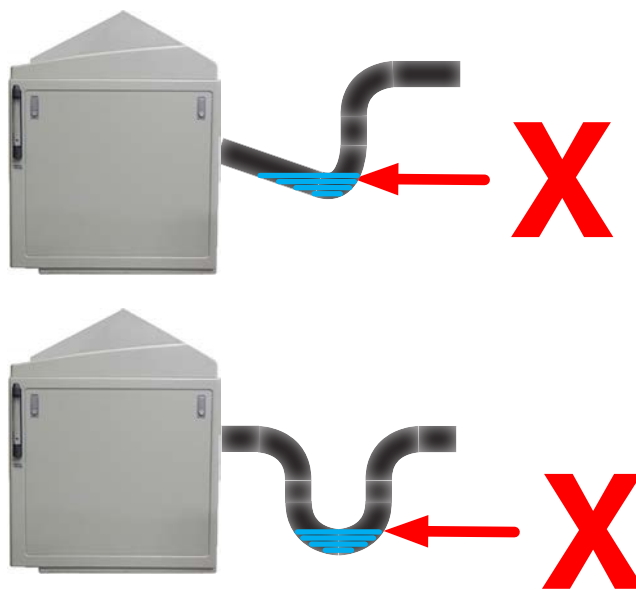

Figure 5.9g: Incorrect vent installations.
- Avoid all installations that could create moisture traps (see Figure 5.9g).